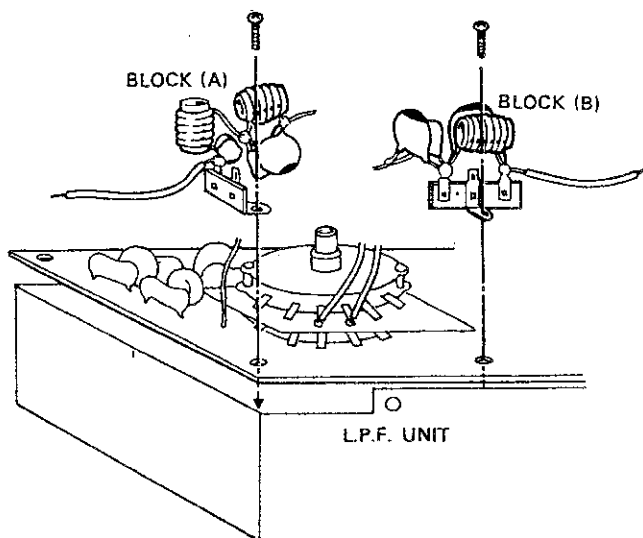

Fig. 11
6. Be sure coils for both subassemblies are positioned as shown in **Fig. 11**. Tape insulate the metal enclosure to prevent shorting of these new components to the case.